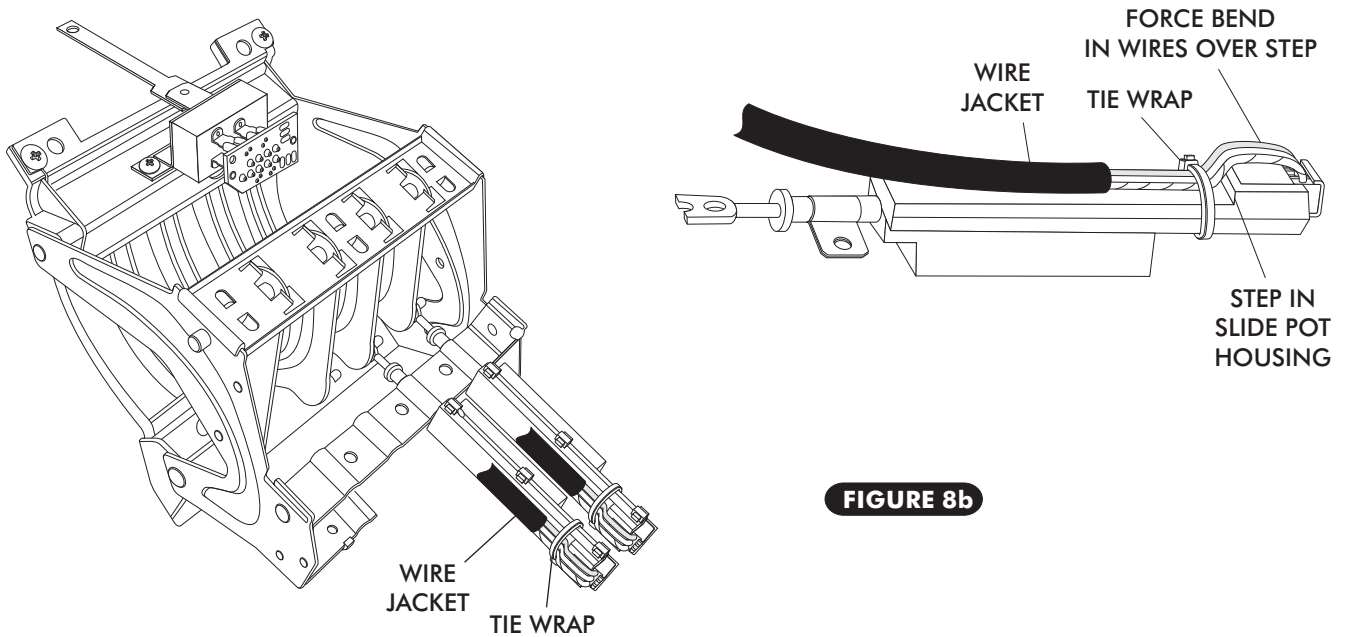

**FIGURE 8a**
- ❑ LOCATE THE CONTROL PANEL WIRE HARNESS AND PLUG THE CORRESPONDING WIRES INTO THE CORRECT SLIDE POT ASSEMBLY AS SHOWN IN FIGURE 8a BELOW.